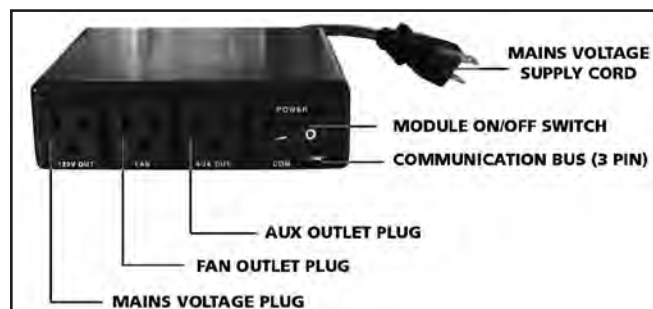

Figure 59: Proflame Fan Control Module.
Fan Control Module (FCM) offers the added ability to control the fan speed through six (6) speeds, a remotely actuated 120V outlet and a constantly powered 120V outlet. The FCM provides DC power to the Receiver allowing the batteries to be used only when line power is interrupted or lost (see Figure 59).